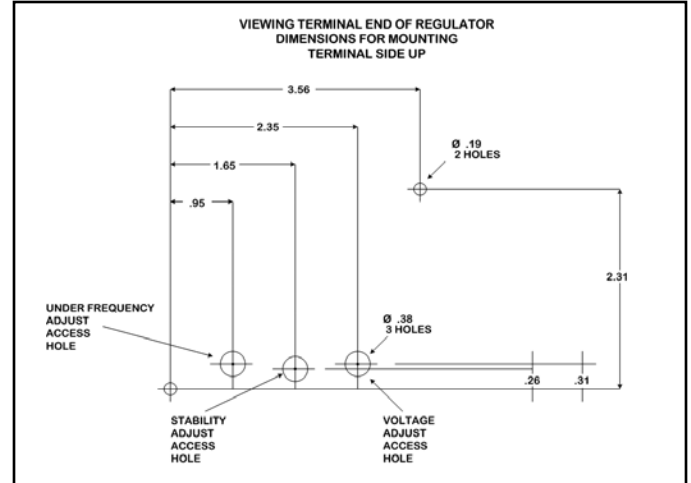

Figure 1
The SE350E voltage regulator can be mounted in any plane. See Figure 1 for mounting dimensions.
1. Connect the test setup as shown in Figure 1. Do not apply power. Insure that the light bulbs are 120 volt, and less than 100 Watts.